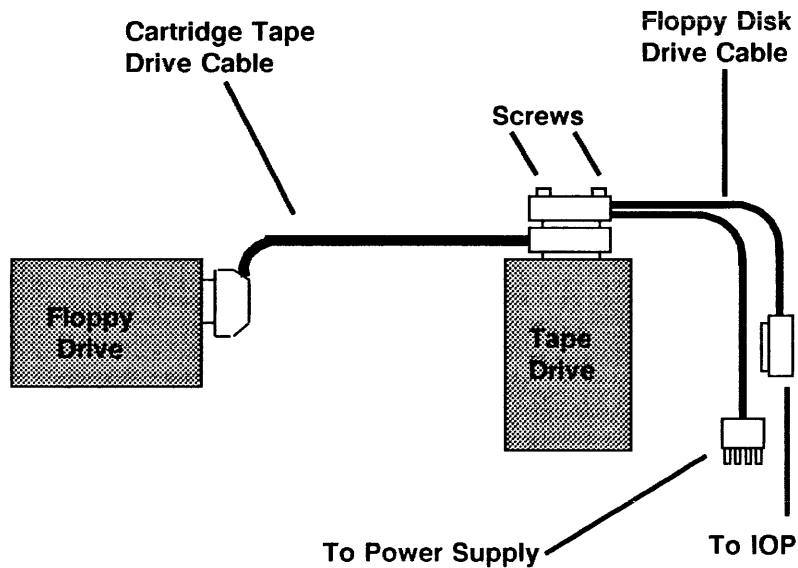

Figure 22C. Connecting the Optional Drive Cables
7. Connect the optional drive cables (Figure 22C).